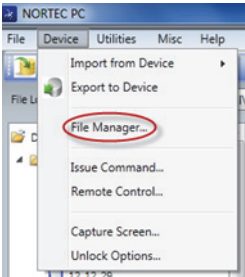

Figure 6-21 The File Manager command
- ◆ On the NORTEC PC software **Device** menu, select **File Manager** (see Figure 6-21 on page 325).